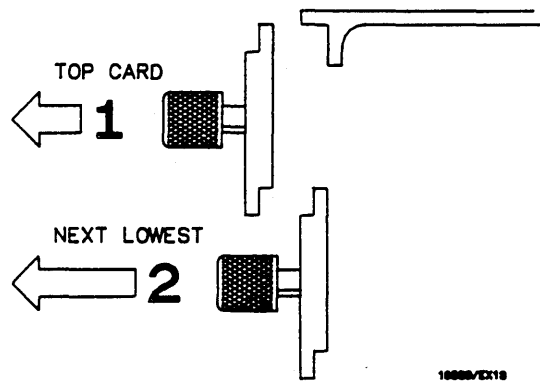

Figure 6-16. Endplate Overhang
- c. Starting from the top, begin pulling all filler panel(s) and card(s) out half way. See figure 6-16.